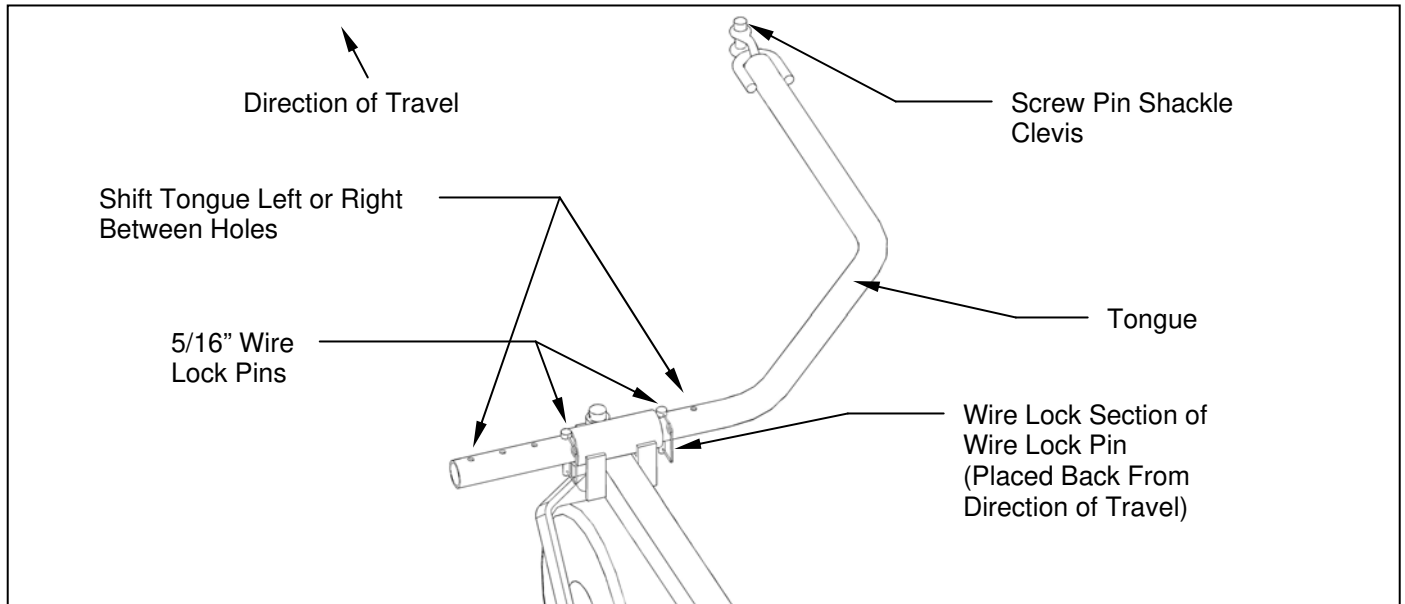

Figure 6: ATV Tongue Assembly
**Note:** To help prevent any unwanted pin removal caused by oncoming debris install the 5/16" wire lock pins with the wire lock section back from the direction of travel. **See Figure 6.**
The tongue is designed to adjust from left to right within the hitch pivot. This allows the mowers position to be varied behind the tow vehicle. This is accomplished by pulling the 5/16" wire lock pins out and choosing two other hole locations on the tongue. **See Figure 6.**